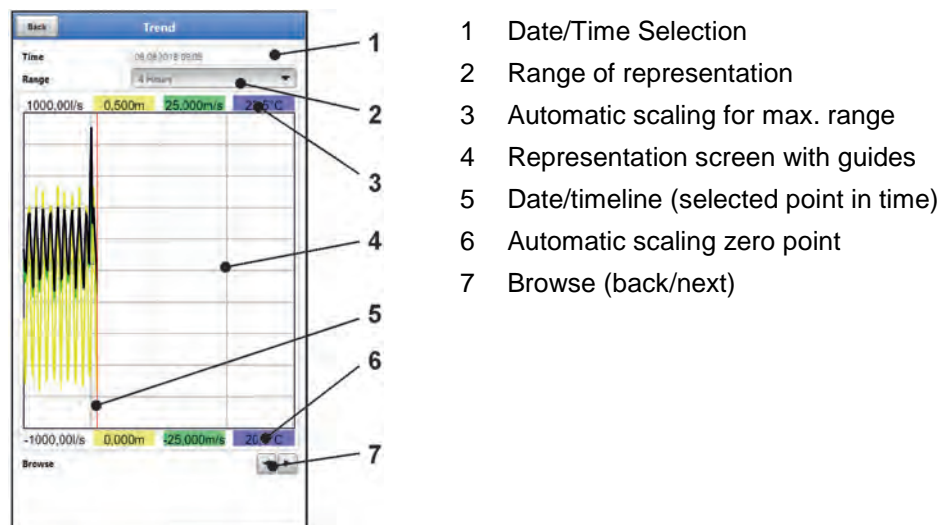
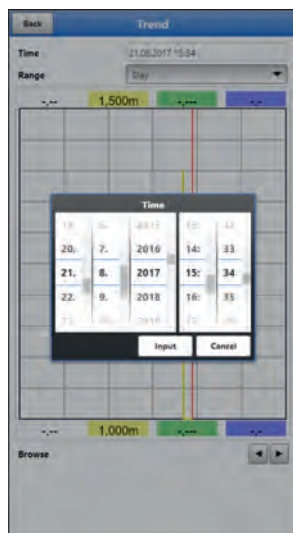

Fig. 39-2 Representation Trend Graph
Fig. 39-3 Selection Date/Time
1. Select the desired range (range of representation; Fig. 39-2 Pos. 2).
2. If necessary, use the arrows (Fig. 39-2 Pos. 7) to scroll forwards and backwards with the same basic display setting.
When the Trend menu is opened, the current date and time are displayed. If historical measurement data or a specific point in time is to be displayed, this can be set via the date/time selection (Fig. 39-2 Pos. 1). The selection mask shown below opens here (Fig. 39-3). If a start date is selected, (depending on the range set) the measurement data is shown in the display area below.